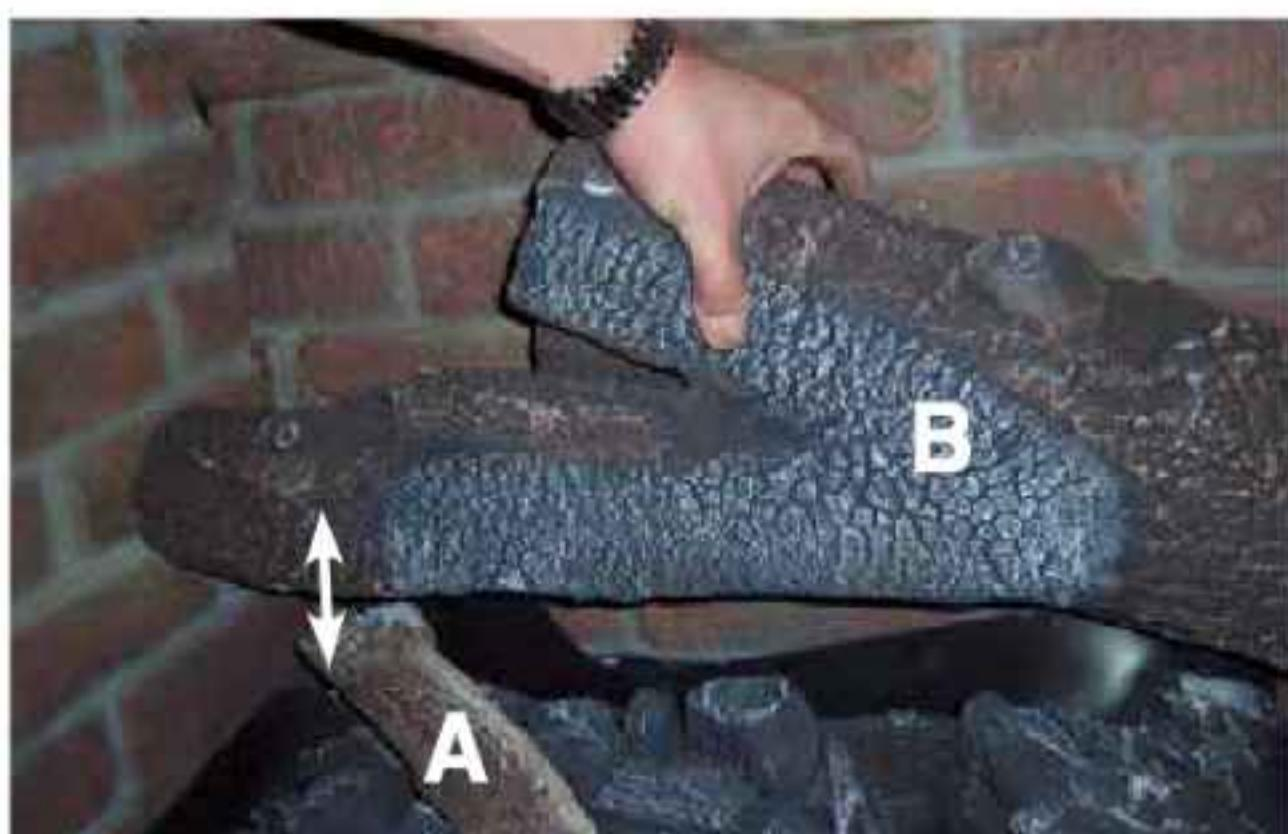

Figure 88: Log B Position
3) Line up Locator on Log B with Locator on Log A as shown in Figure 88.